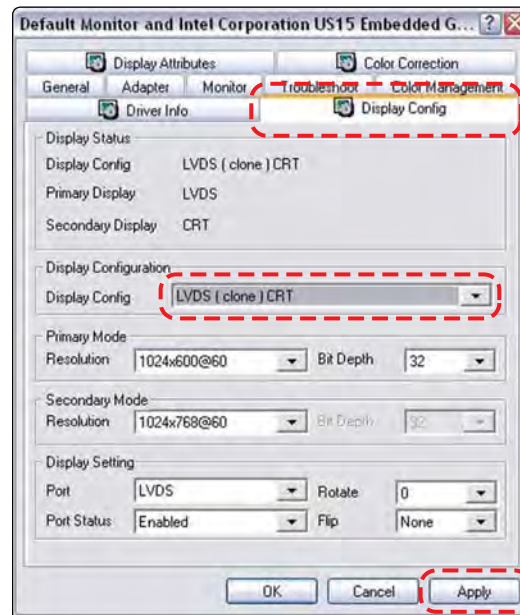

Figure 16-4 Sample Display Config tab
4. From the Display Config tab, select LVDS (clone) CRT from the Display Configuration dropdown menu (Figure 16-4).